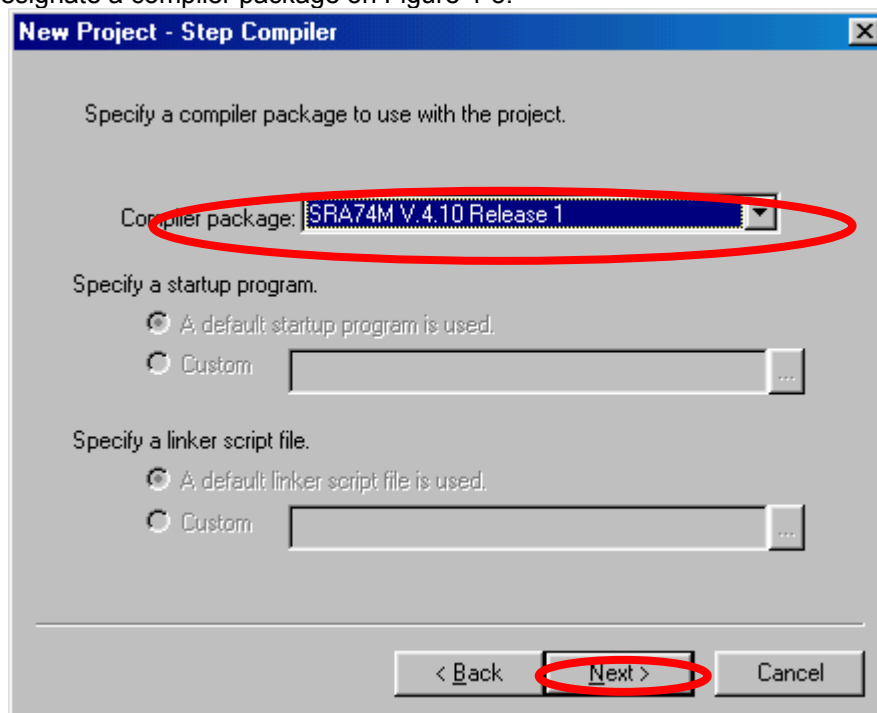

Figure 4-5 Screen of New Project Step-Compiler
- 7) Designate a compiler package on Figure 4-5.